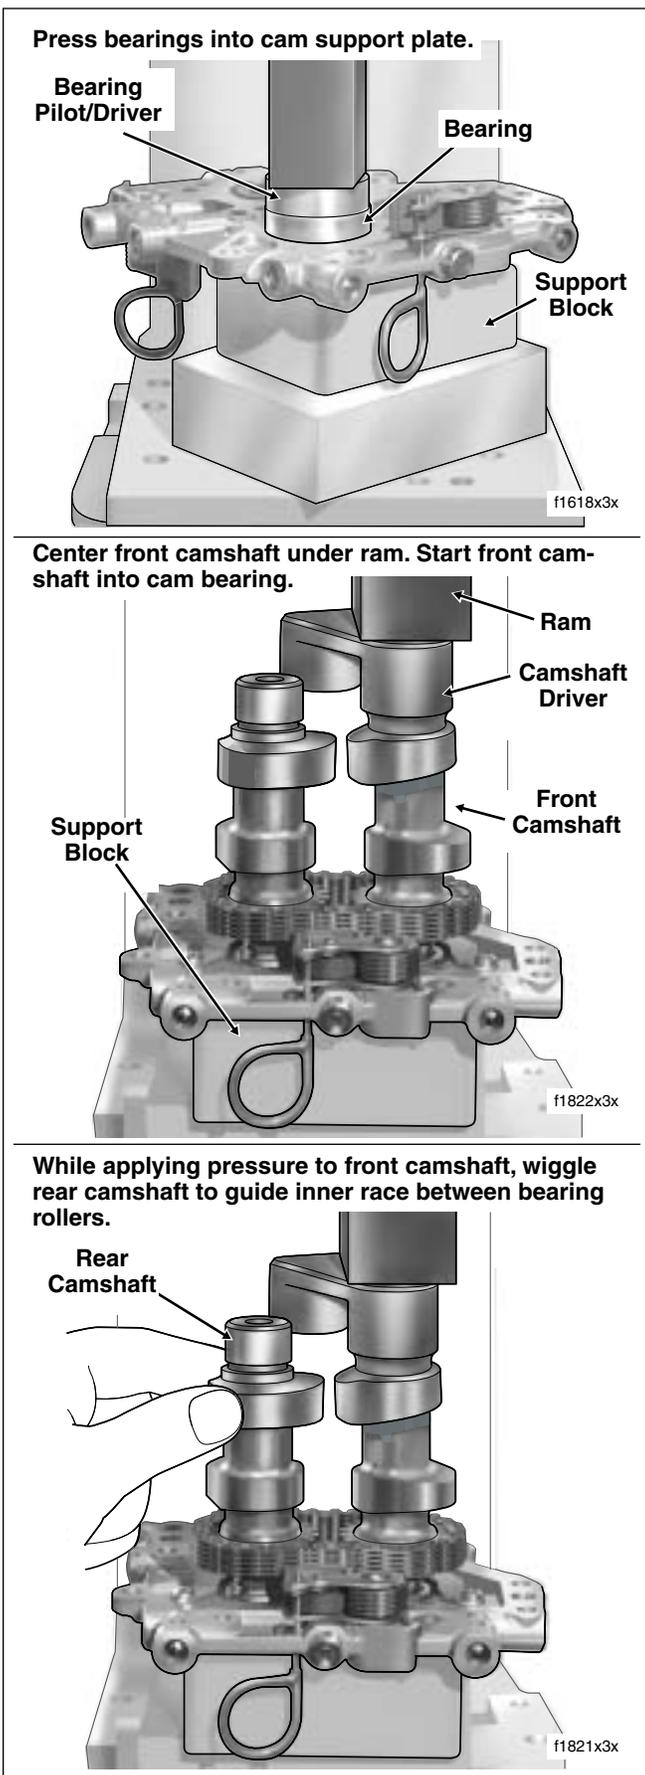

Figure 3-112. Install Cam Bearings/Camshafts
6. Center bearing driver under ram of arbor press. Press on driver until bearing makes firm contact with counterbore in cam support plate. See upper frame of Figure 3-112. Repeat steps to install second bearing.
- Center end of front camshaft under ram and slowly apply pressure to driver just to start front camshaft into bearing ID. See center frame of Figure 3-112.
- Slowly apply pressure to driver on front camshaft, while wiggling rear camshaft as necessary to guide inner race between bearing rollers. See lower frame of Figure 3-112.